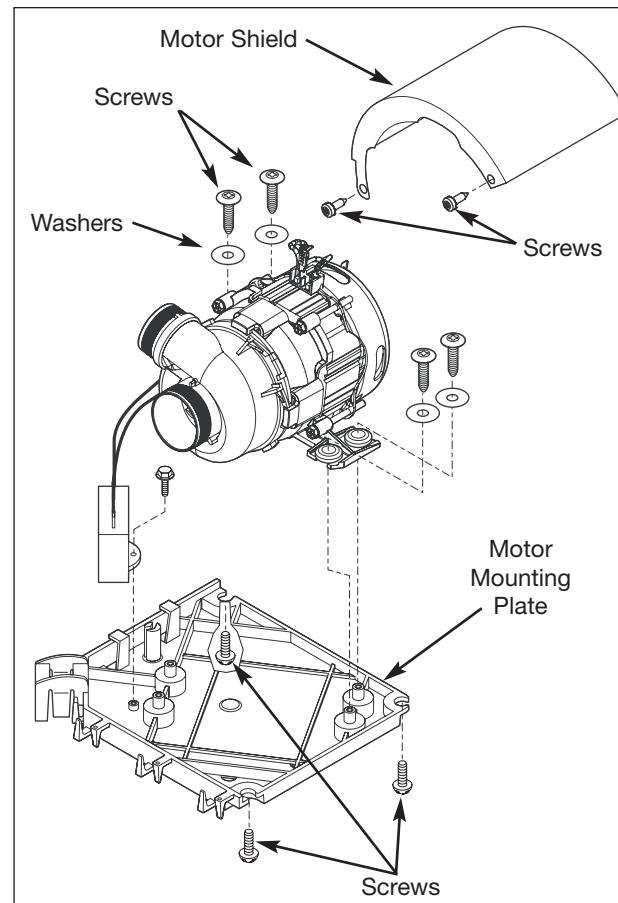

Figure 5-38. Wash Pump and Motor Removal
4. Using a #20 Torx bit, extract the three screws securing the motor mount plate to the unit frame. Pull mount plate away from unit base. The flood switch can be removed from the mount plate to make accessing the wash pump and motor components easier. (See Figure 5-38)